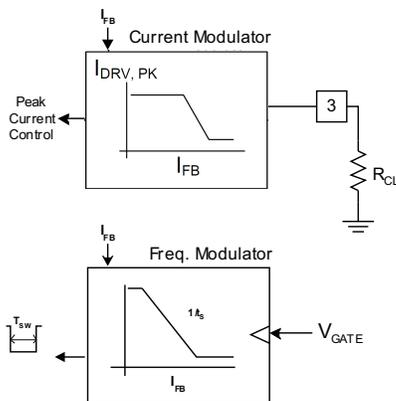
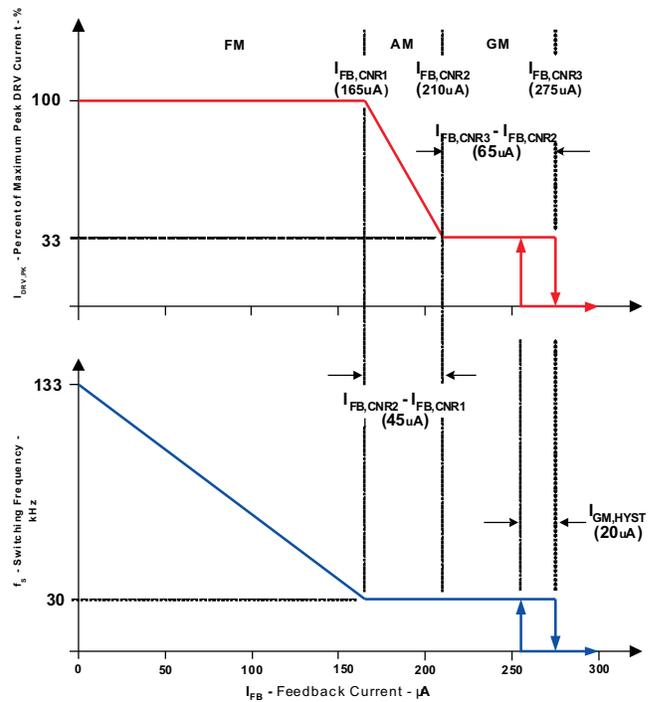

Figure 25. Modulation Control Blocks
Figure 26. Control Diagram with Operating Modes
Under normal operating conditions, the FB current commands the operating mode of the UCC28610, as shown in Figure 25 and Figure 26. The FB current commands the UCC28610 to operate the converter in one of three modes: Frequency Modulation (FM) mode, Amplitude Modulation (AM) mode, and Green Mode (GM).
The converter operates in AM mode at moderate power levels (2.5% to 23% of the peak regulated power). The FB current regulates the output voltage by varying the peak HV MOSFET current from 33% to 100% of the maximum programmed value while the switching frequency is fixed at approximately 30 kHz. The UCC28610 modulates the voltage on the CL pin from 3 V to 1 V to vary the commanded peak current, as shown in Figure 25 and Figure 26.